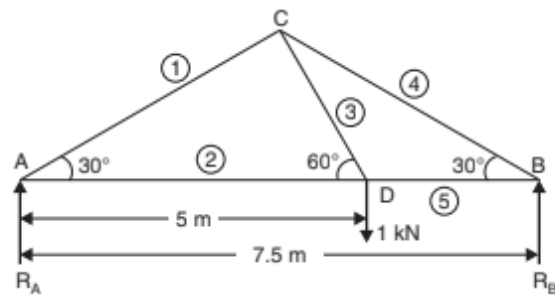

Fig. 7.8
**Problem 7.2.** A truss of span 7.5 m carries a point load of 1 kN at joint D as shown in Fig. 7.8. Find the reactions and forces in the members of the truss.